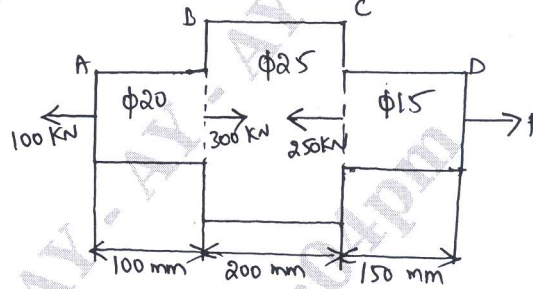

Fig.Q1(b)
- b. Determine the stresses in various segments of circular bar shown in Fig.Q1(b). Compute the total elongation taking Young's modulus $E = 195 \text{ GPa}$. (12 Marks)